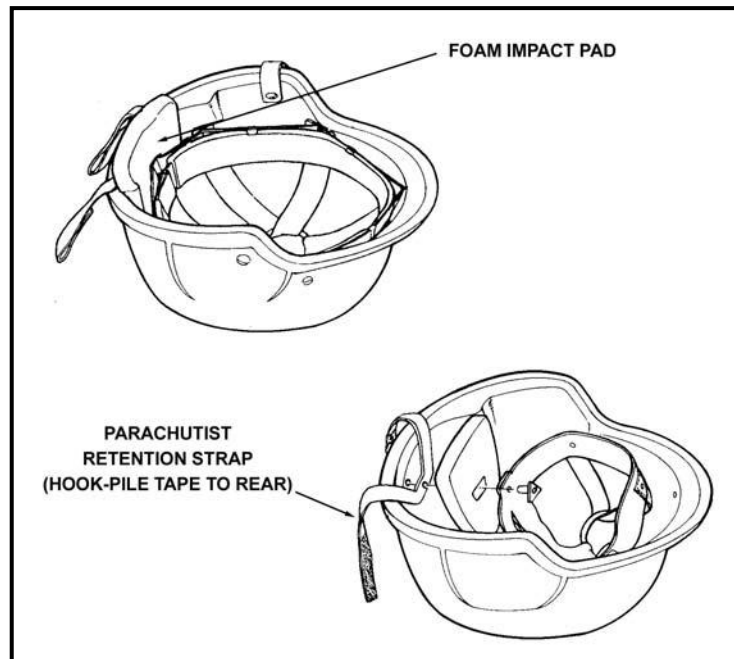

Figure 2-11. Ballistic helmet with retention strap and foam impact pad.
a. **Parachutist Helmet Modifications.** The ballistic helmet is modified for airborne operations by adding a parachutist retention strap and a foam impact pad (Figure 2-11, page 2-20). These items provide maximum safety and stability.